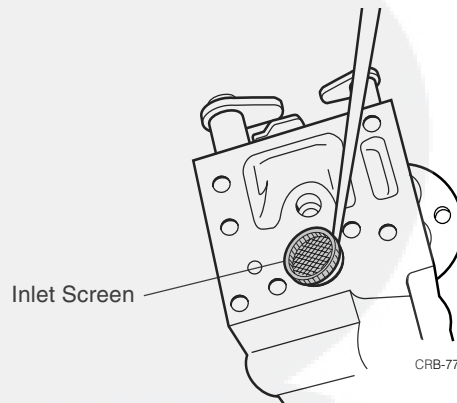

Figure 3.13 Removing the Inlet Screen (HDA shown)
- STEP 2.** Using a small pick, carefully remove the fuel inlet screen from the pump body (Fig. 3.13).